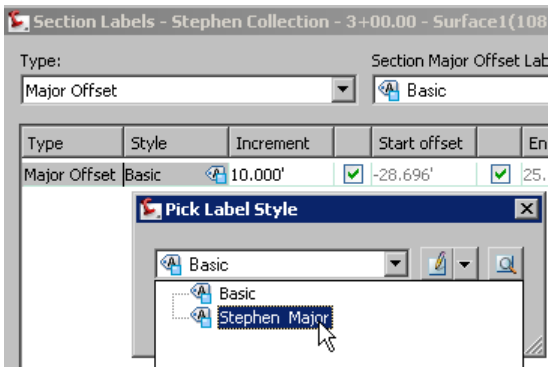

Figure 9-39 Selecting the **Stephen Major** section label style
- 6. Select **Stephen Major** from the drop-down list in the dialog box, as shown in Figure 9-39.